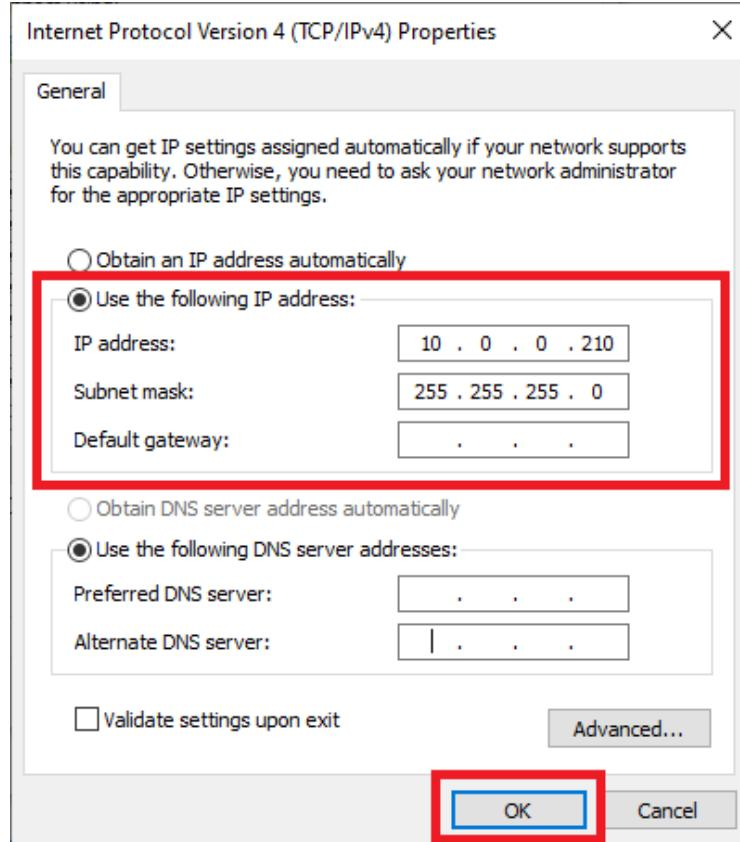

Figure 6: Set the properties of the TCP/IPv4 protocol
4. Select “Use the following IP address”. Enter an IP address of the form 10.0.0.x where x is a number in the range 2–14 or 16–254. (The choices x = 0, 1, or 255 are often given a special purpose in networking and so we exclude them. The choice x = 15 is excluded because PCL uses this IP address for its cameras.) This will now be the static IP address associated with that Ethernet port of the computer. Enter 255.255.255.0 in the subnet mask field. Click OK twice. See Figure 6 (in which x = 210).